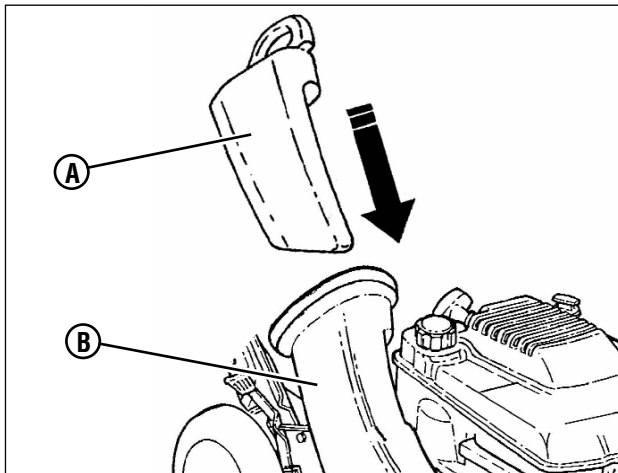

Figure 12: Installing the recycling plug
1. Install the recycling plug (A, Figure 12) if recycling is desired after the bag adapter is installed. Install the recycling plug completely and securely into the bag adapter (B).